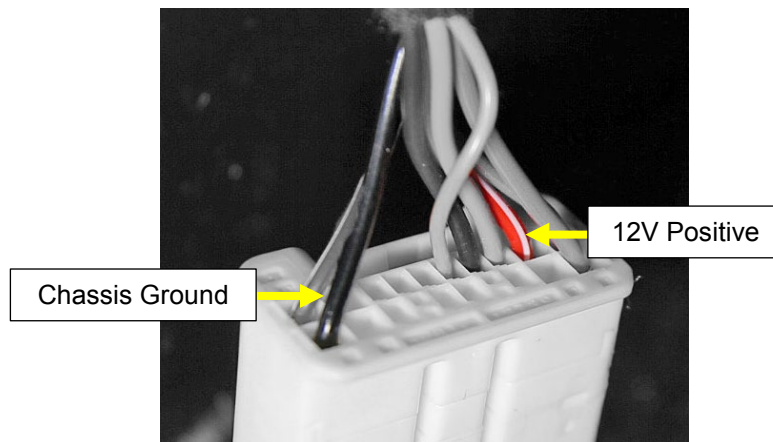

Figure 5 (Appropriate wires highlighted)
6. Use the red wire with a white stripe for 12V positive power. Use the black wire for chassis ground (Figure 5).